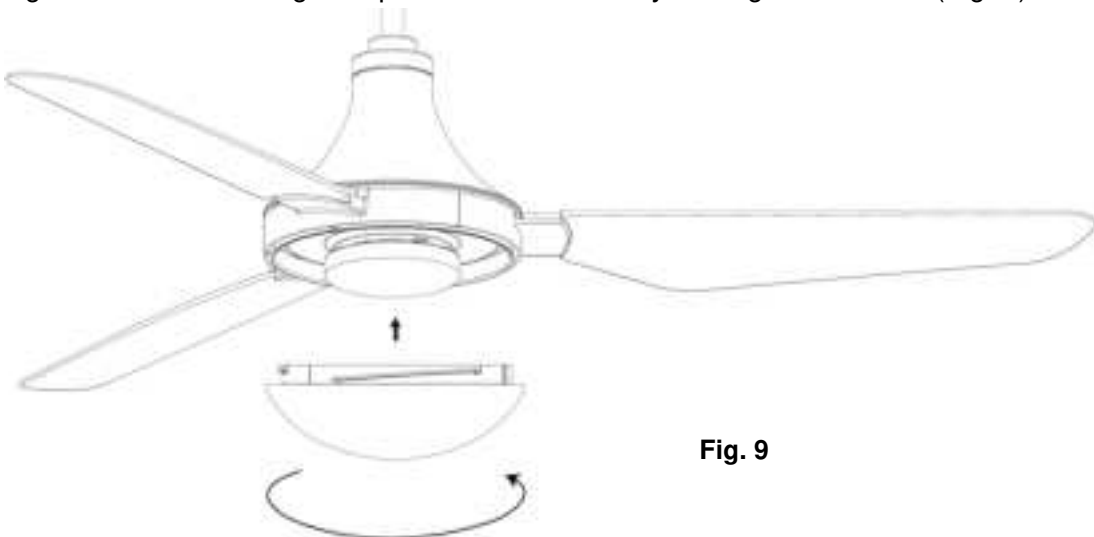

Fig. 9
- Install the glass shade on the light kit plate then secure it by turning clockwise. (Fig. 9)